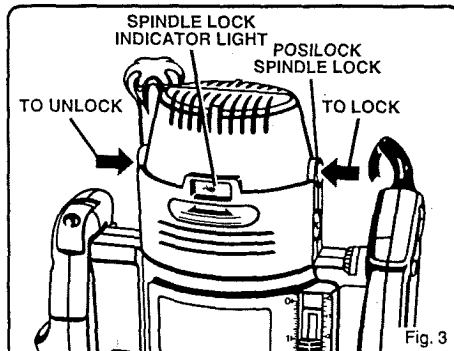

Fig. 3
See Figures 3, 4, and 5.
2. Place the posilock spindle lock into lock position. See Figure 3. **NOTE:** If spindle does not lock, turn collet nut with wrench, applying pressure at the same time to the spindle lock with your thumb or finger. When lock mechanism engages with notch in spindle, spindle lock will slide into lock position.